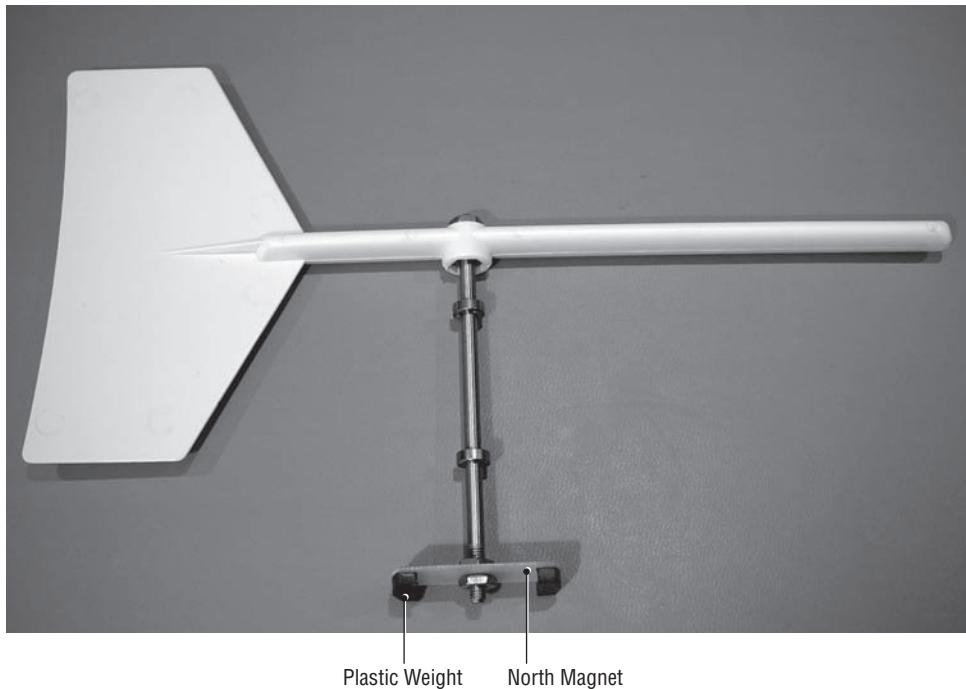

FIGURE 6-5: Align the pointer with the magnet.
4. Once the two are aligned, install the outer 10/32 nut. Tighten the nut snugly, but not too tight so you don't break the plastic. The completed assembly should look like Figure 6-5.